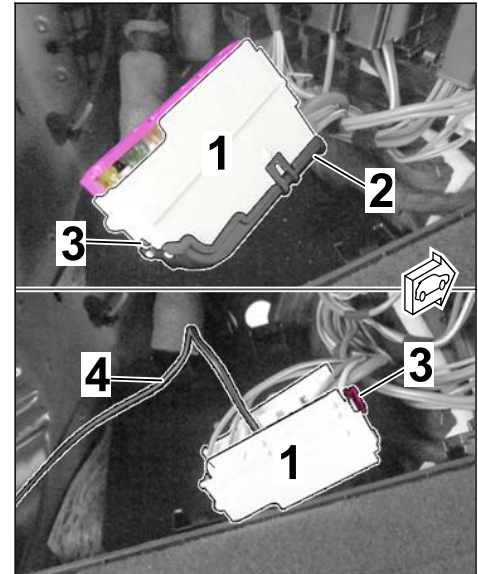

Figure 10
2.3.1 Remove fuse holder H (strip B – white) from the fuse box in the luggage compartment (⇒ *Workshop Manual '978409 Loosening and securing fuse box in the luggage compartment'* ⇒ *Figure 10-top-*).
2.3.2 Release fuse holder H (strip B – white) and connect the lines (RD/GN and RD/YE) as follows (⇒ *Figure 10-bottom-*):